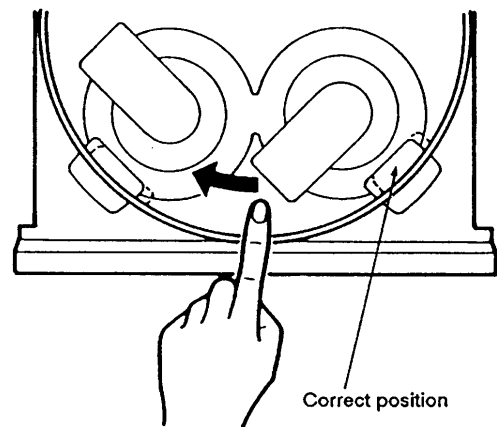

Fig. 8
- Do not rotate or stop the carousel by hand. If you do so accidentally, the carousel may not stop at the correct position. If it occurs, carefully set the carousel to the correct position by hand as shown in Fig. 8.